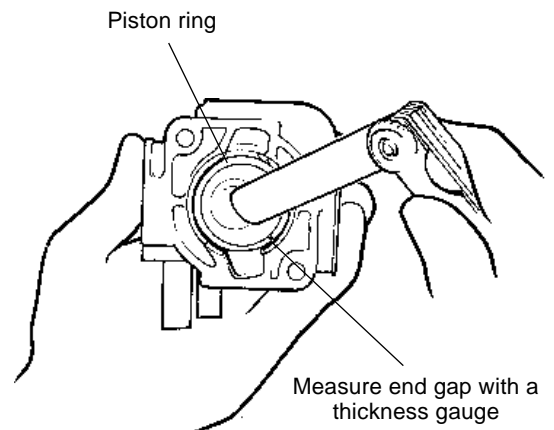

Figure 7.10 Measuring ring end gap
STEP 2. Measure piston ring thickness and width with a micrometer, and use a thickness gauge to measure piston ring end-gap with the individual rings installed about halfway into the cylinder bore (Figure 7.10).